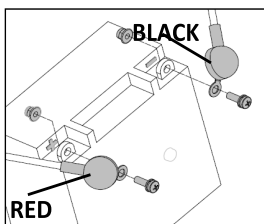

Figure 16
1. Connect the battery connectors to the machine connection leads and tighten the 2 screws, then cover the protective cap for the 2 wires. The red wire connects to the positive electrode (+) and the black wire connects to the negative electrode (-), as in Figure 16.